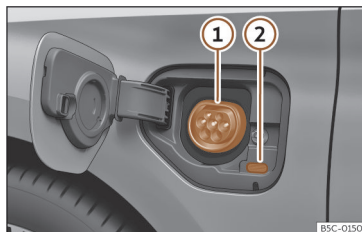

Fig. 205 Behind the battery charging cover on the front left-hand side: Charging socket
>>> Fig. 205
- With the vehicle unlocked, the battery charging cover opens when it is pressed >>> **Fig. 205**.